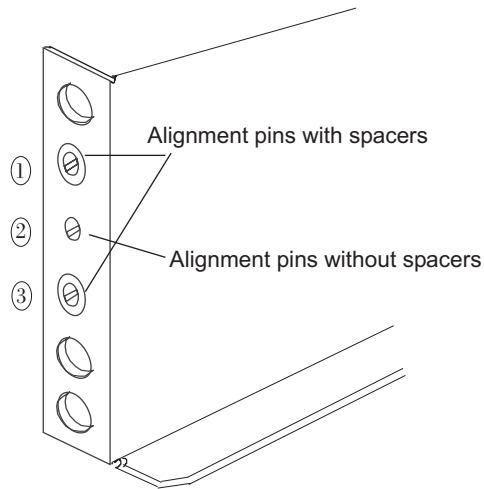

Figure 16. Alignment pins with and without spacers
**Attention:** Both support rails are shipped with three screws and spacers, called *alignment pins*, already installed at the front of each rail. They have been inserted in the front of each support rail as guides to indicate where *not* to use M6 screws when you attach the front of the support rail to the rack. See Figure 16.